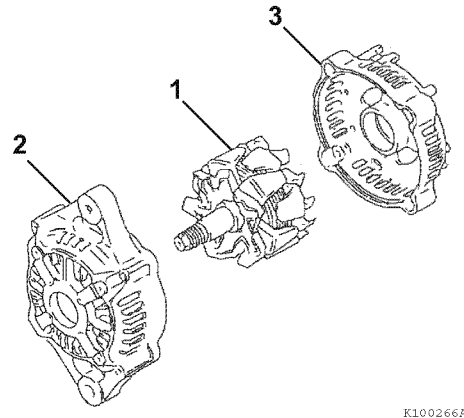

Figure 11-9
- Using a press, remove the rotor assembly (1, **Figure 11-9**) from the front frame housing (2, **Figure 11-9**) and rear frame housing (3, **Figure 11-9**).